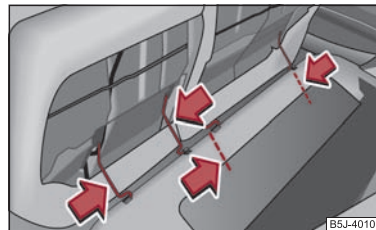

Fig. 55 Removing seat cushions
- Press the wire clamps in the direction of the arrow ⇒ fig. 55 and remove the seat cushion from its holder. ►